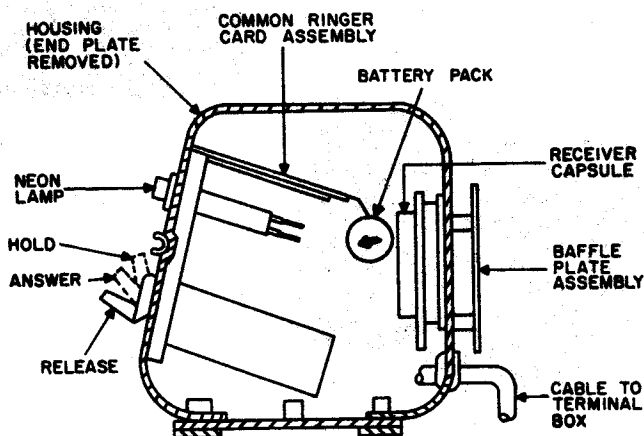

Figure 2. Side View of Housing.
2.02 A neon signal lamp is located above each lever key (Figure 2). These neon lamps are encapsuled with a limiting resistor in a nylon protective sleeve and covered by a translucent lens. Each lamp assembly is fastened to the front of the panel by a speed nut.
2.04 Each lever key operates as a locking, cam-operated switch having three positions: RELEASE, HOLD, and ANSWER (Figure 2). A finger-fitting, no-slip handle is attached to the metal extension of each key.